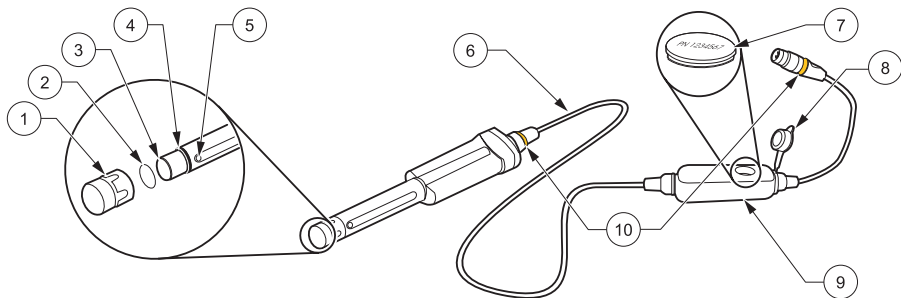

Figure 1 LDO101 Standard Probe—Sensor Cap and iButton
2. Remove the used sensor cap from the probe and discard. Do not touch or soil the exposed sensor lens (Figure 1).
4. Position the new cap seal on the probe body with the narrow shoulder of the seal facing the probe tip (Figure 1). Slide the seal until it rests against the probe body threads.
5. Place the new O-ring into the groove at the sensor tip (Figure 1). Do not touch the sensor lens.
6. Finger-tighten the new sensor cap onto the probe until the seal is compressed. Do not over-tighten. The cap will push the seal over the threads and into position (Figure 1). Do not touch or soil the sensor lens.
8. Pull to open the iButton®* cover on the pressure-sensor module (Figure 1). Tip the module to remove the existing iButton.